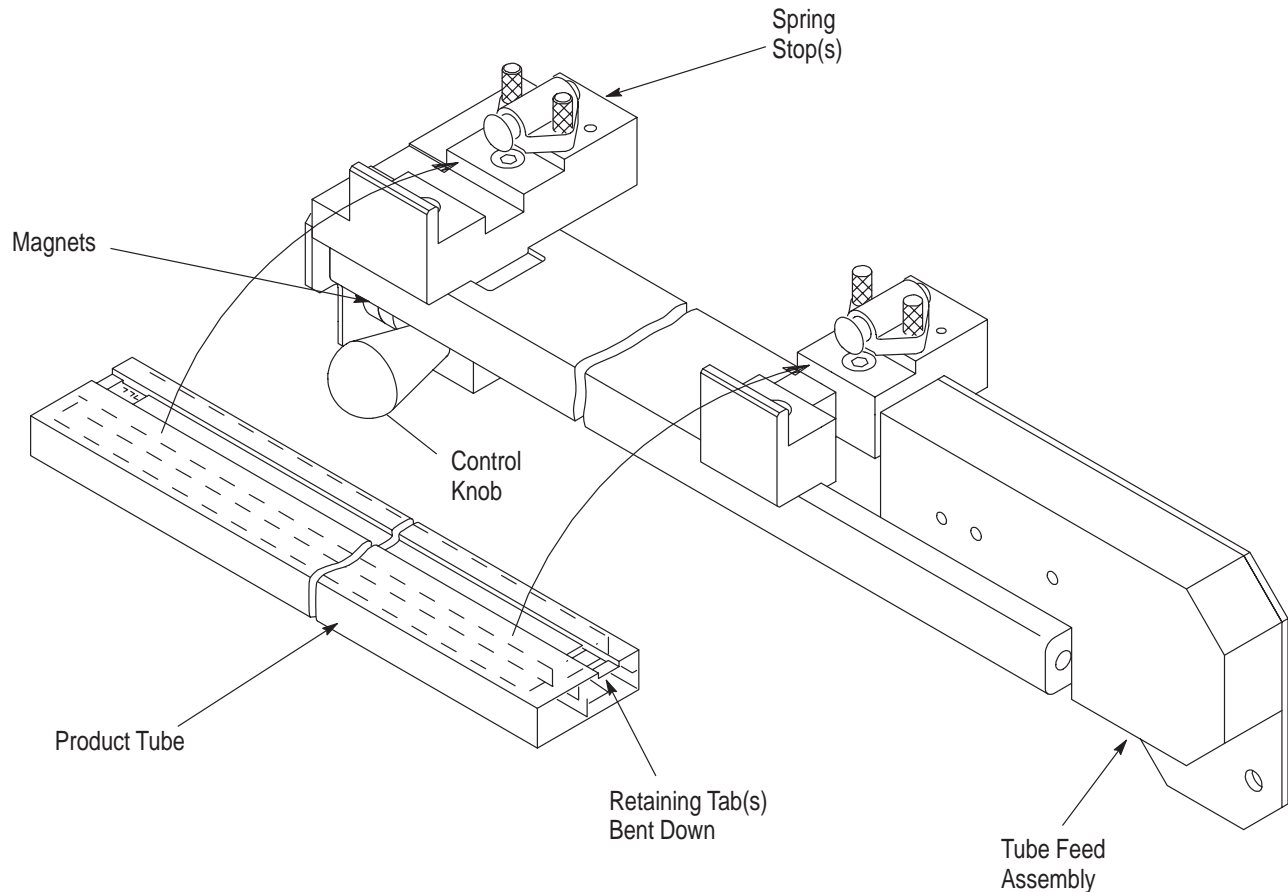

Figure 10
- c. placing the product tube in the tube feed station (with the termination slots of the contacts closest to the operator and facing upwards) by pushing it against the spring stops and down onto the track. See Figure 10.